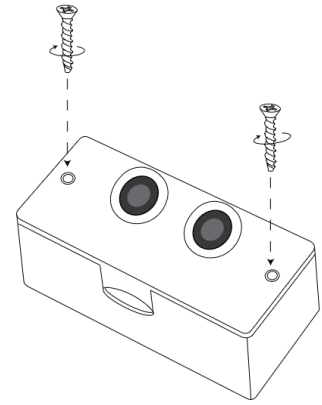

Figure 3: Top Housing Installation
4. Align the top and bottom LED cut-out. Ensure the tamper in the top housing is aligned with the tamper location on the base housing. Using a Phillips screwdriver, use the two included screws to secure the top housing to the bottom housing. See Figure 3.
3. Align the top housing and LED cut-out with the base housing and reassemble. See Figure 3.